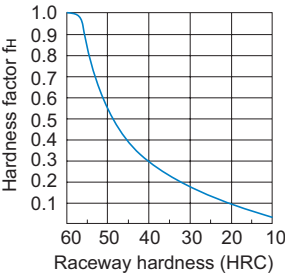

Fig.2 Hardness Factor (f_H)
Note) Note that if the hardness of the raceway is lower than 58 HRC, the rated loads will be decreased. (See Fig.2 on A-627.)
- f_H : Hardness factor (see Fig.2 on A-627)